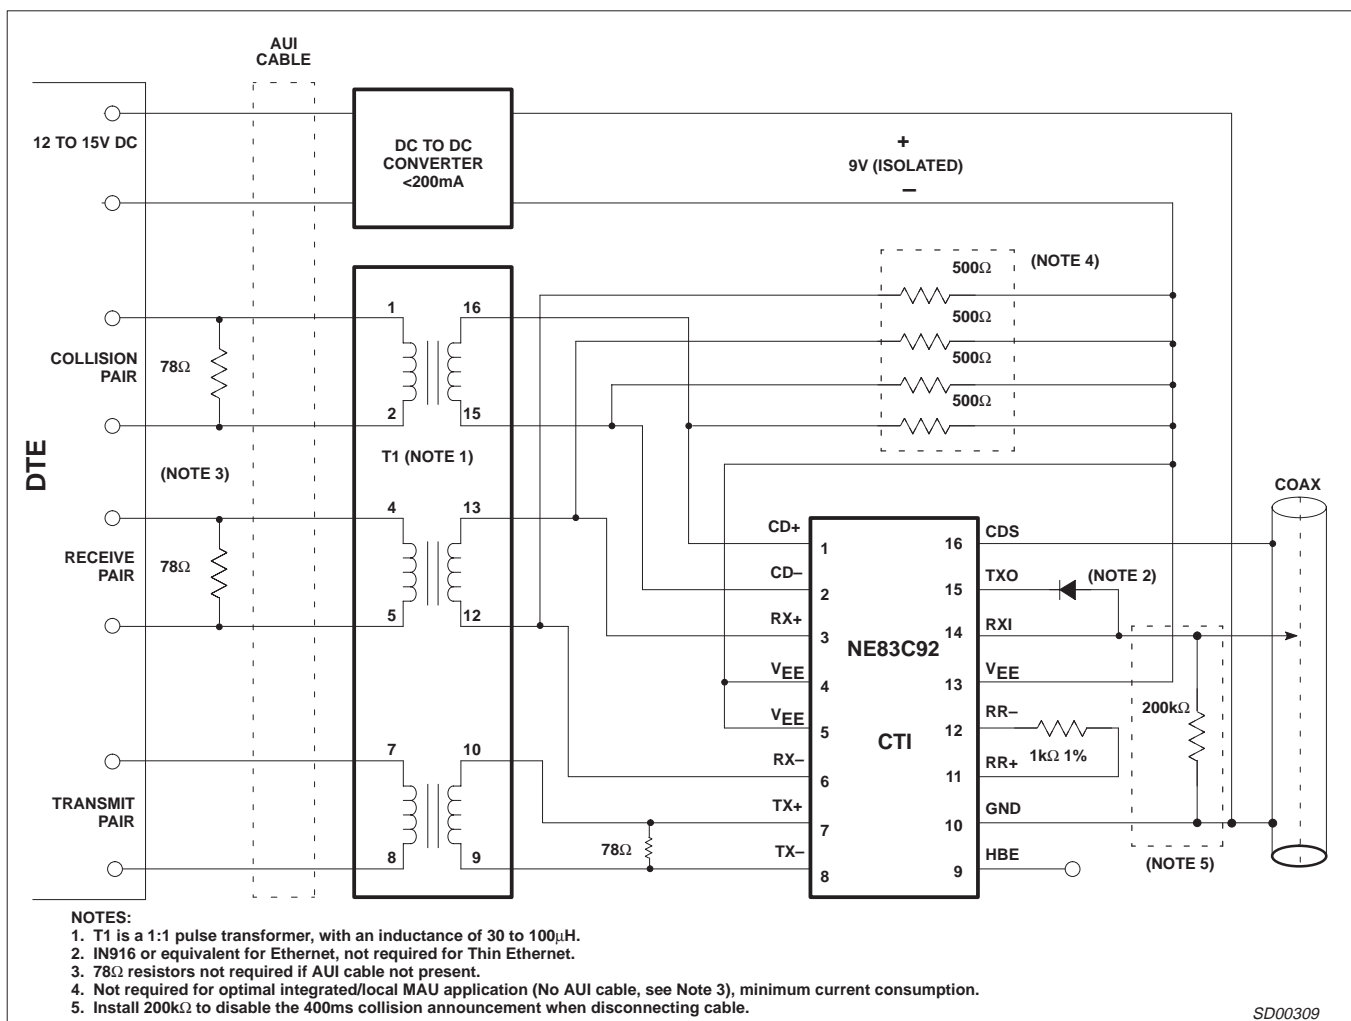

Figure 3. Connection Diagram for Standard 8392 Applications
6. Measured on secondary side of isolation transformer (see Connection Diagram, Figure 3). The transformer has a 1:1 turns ratio with an inductance between 30 and 100 μH at 5MHz.
- Measured on secondary side of isolation transformer (see Figure 3, Connection Diagram). The transformer has a 1:1 turn ratio with an inductance between 30 and $100\mu\text{H}$ at 5MHz.